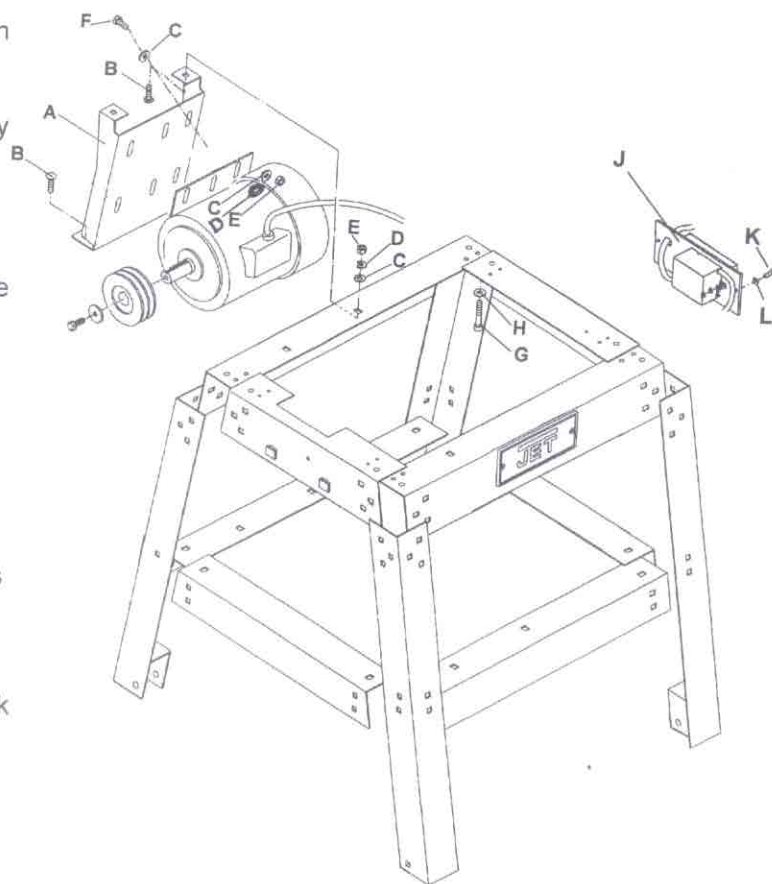

Fig. 5
10. Install motor plate (A, Fig. 5) to stand assembly with carriage bolts, flat washers, lock washers, and nuts. Tighten bolts firmly. **Note:** Bolts in top plate mount upside down; washers and nuts fasten to the carriage bolt on top of the plate. **Note:** Be sure to position the motor plate as shown in Fig. 5.
11. Install switch assembly (J, Fig. 5) into opening on right side of the stand with two 3/16"x1/2" pan head machine screws (K, Fig. 5) and two 5x12x0.8 flat washers (L, Fig. 5).
13. Place motor onto the motor plate. Motor pulley must be on the side with the cut out in the stand top as in Figure 5.
15. Attach the motor to the motor plate with four 5/16"x1/2" hex cap bolts (F, Fig. 5), eight 5/16" flat washers (C, Fig. 5), four 5/16" lock washers (D, Fig.5) and four 5/16" hex nuts (E, Fig. 5). Do not tighten hardware at this time.
19. Fasten the planer/molder to the stand top with four M8x45 hex socket cap screws (G, Fig. 5) and four 5/16" flat washers (H, Fig. 5).